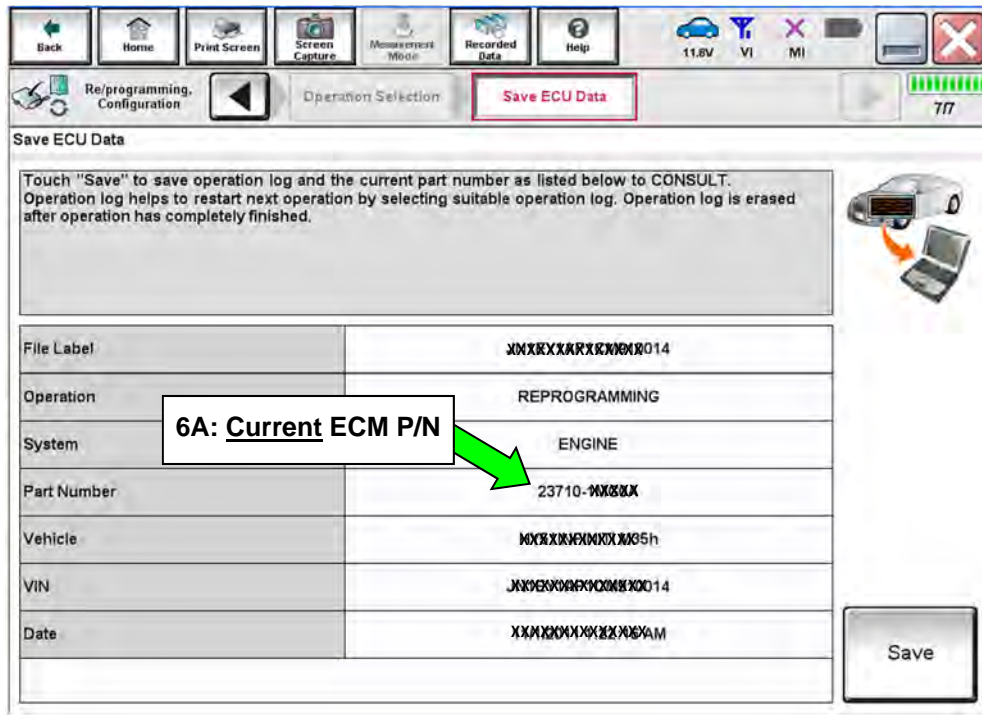

Figure 2
5. Follow the on-screen instructions and navigate the C-III plus to the screen shown in Figure 2 on the next page.
6. When you get to the screen shown in Figure 2, confirm that a reprogram is available as follows.